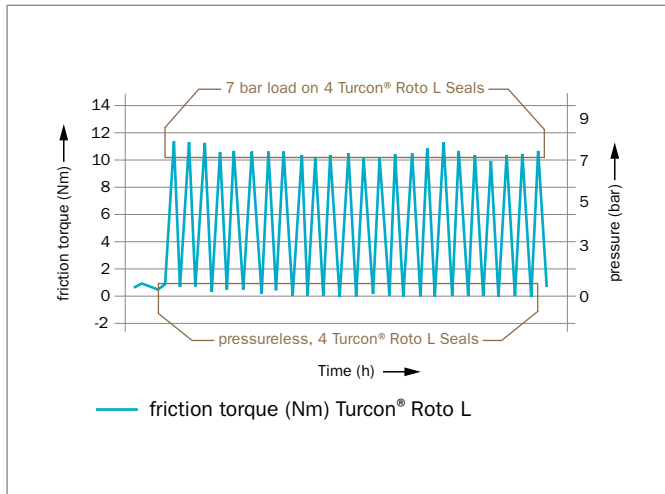
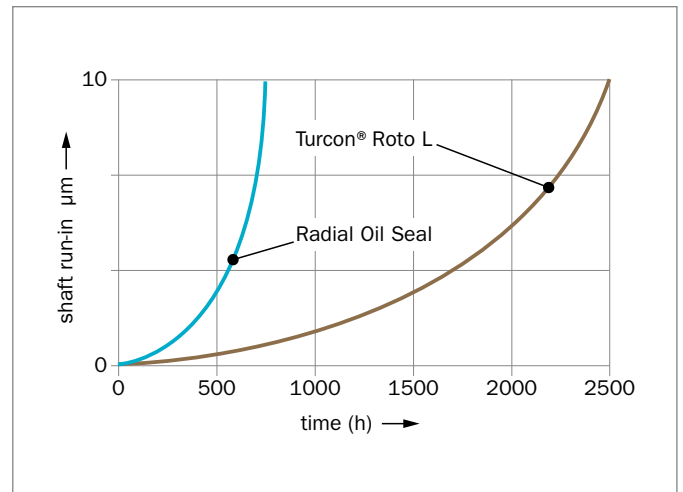

Figure 98: Dry air torque test
Figure 99: Lifetime of hardware
- Extended seal life on axle systems due to reduced frictional torque (see Figure 98 and Figure 99)